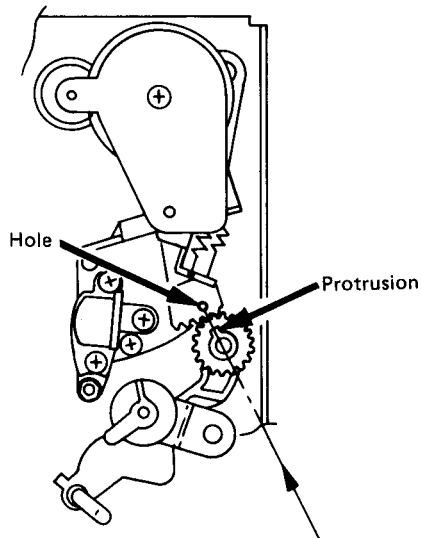

Fig. 2-5-4 Phase adjustment of middle pole
1. In the Stop mode, relative position of the middle pole and the arm gear is as shown in Fig. 2-5-4.